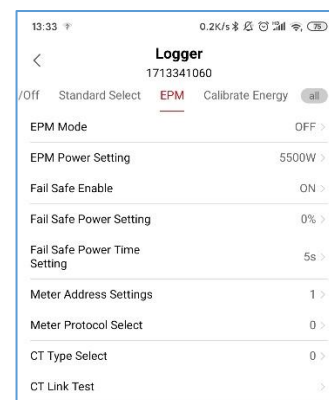

FIG.10 Default setting of EPM page
- Set all the parameters refer to the local requirement, as per FIG.10 (such as "EPM power setting", "Fail safe Power Setting" etc.)